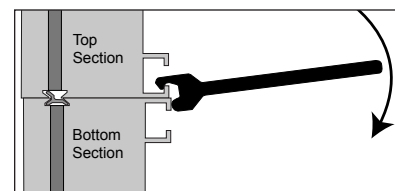

Figure 12: Aligning Display Sections with Splice Tool
5. Starting at one end of the display, insert the top lip of the splice wrench into the top section mounting channel. Refer to **Figure 12**.